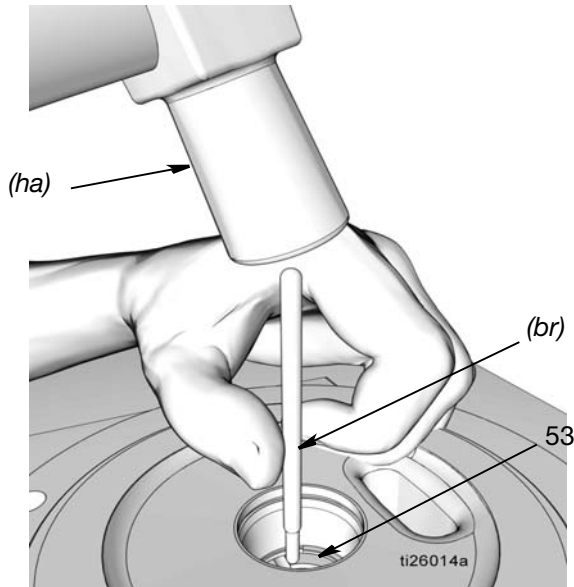

FIG. 26
- d. Remove spacer (12), seal (11), and spacer (12).
19. Use a soft brass rod (*br*) and hammer (*ha*) to gently tap the pump element sleeve (53) out of the pump base (1) (FIG. 26).